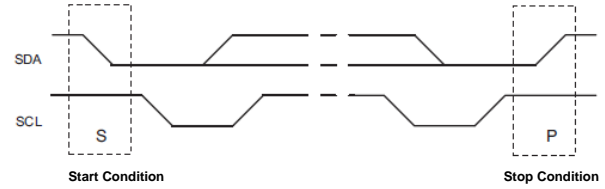

Figure 15: Start and Stop Conditions
Start (S) and stop (P) conditions are signaled by the master device, which signifies the beginning and end of the I²C transfer. The start condition is defined as the SDA signal transitioning from high to low while the SCL is high. The stop condition is defined as the SDA signal transitioning from low to high while the SCL is high (see Figure 15).